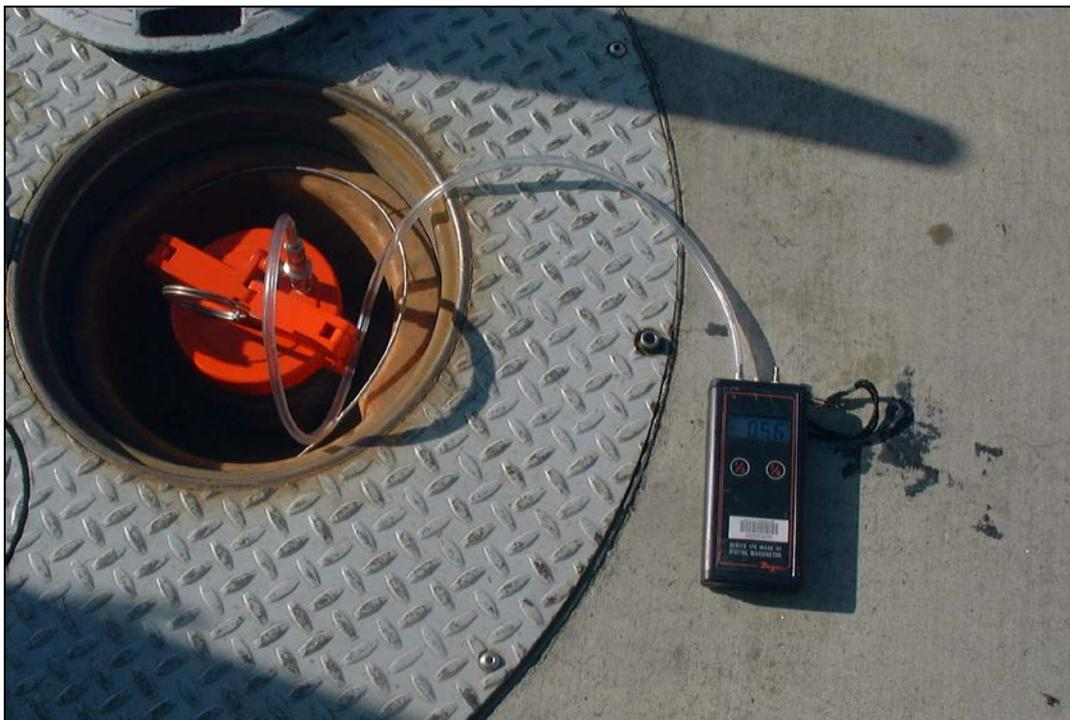

Figure10-3
Determining Ambient Pressure - The Vapor Pressure Sensor is subjected to ambient pressure by turning the Vapor Pressure Sensor valve, which is located on the vent stack or in the dispenser closest to the tanks, to the atmospheric valve position as shown in Figure 10-3. This test can be performed while product is being dispensed into motor vehicles.
- 9.2 Remove the cap from the ambient reference port of the Vapor Pressure Sensor valve and open the valve to atmosphere by turning it 90 degrees so that the flow arrows point to both the Vapor Pressure Sensor sensing port and the ambient reference port (see Figure 10-3).
- 9.6 Replace the cap on the ambient reference port of the Vapor Pressure Sensor valve. Restore the Vapor Pressure Sensor valve by turning it 90 degrees so that the flow arrows point to both the Vapor Pressure Sensor sensing port and the UST vapor space sensing line (ref. Figure 10-3).
VALVE SET TO AMBIENT REFERENCE PORT (PER FIG. 10-3)?	<input type="checkbox"/>
VALVE SET TO NORMAL VALVE POSITION (PER FIG 10-3)?	<input type="checkbox"/>